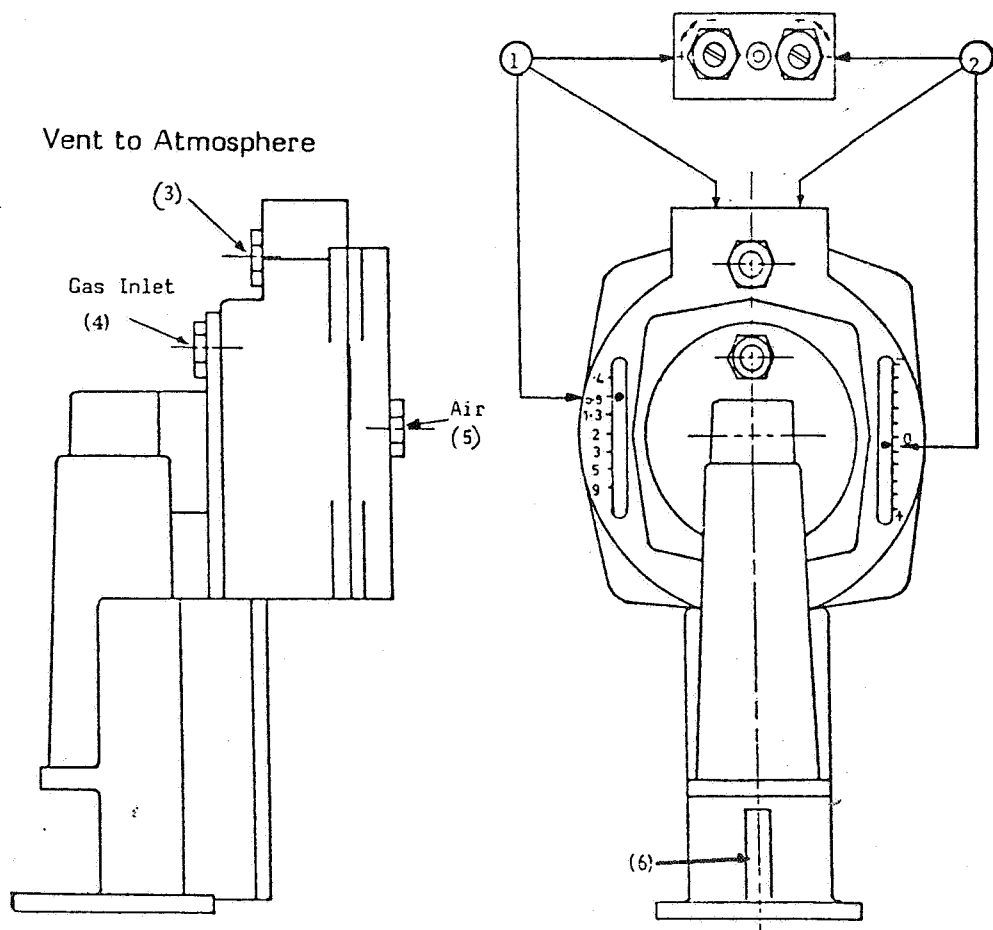
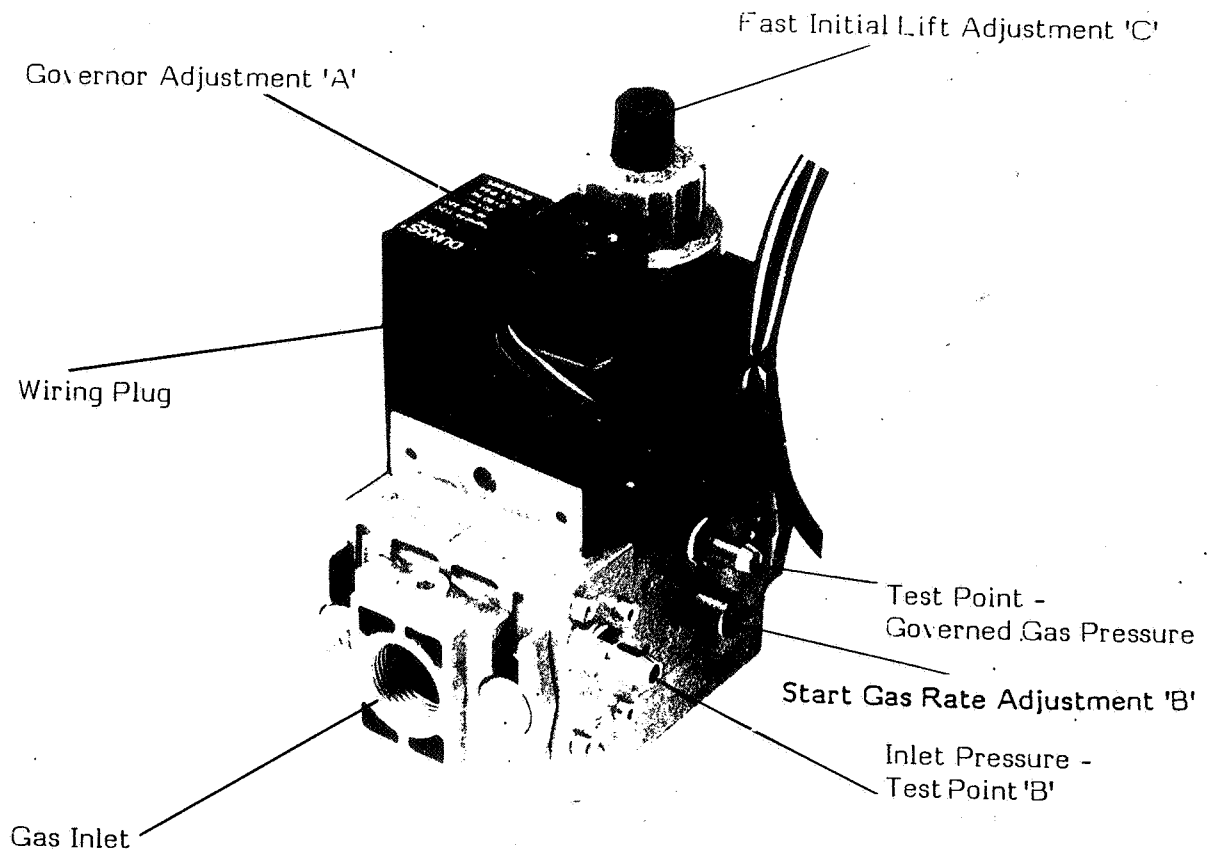

Fig. 10. Air/Gas Ratio Controller.
Fig. 11. Gas Valve with Integral Governor.
9.3.1 AIR/GAS RATIO CONTROLLER (FIG. 10).
Firstly the valve is fitted with Pressure Test Points to check (1) supply pressure to valve, (2) governed pressure and (3) pressure after all valves (as shown in Fig. 11).
- (b) Remove manometer from P.T.P.2 and fit at P.T.P.3. By introducing air via P.T.P.2 at low pressure max, 20 mbar - 8 Wg check for gas tightness of V2 and V3, if pressure is recorded at P.T.P.3 then to identify which valve is leaking manually close main gas valve via adjustment 'D' Fig. 11. Reintroduce air pressure as before, if no pressure recorded then V3 gas tight, and V2 suspect valve, if pressure still recorded then V3 leaking.
Finally once pressure test complete ensure that V2 is fully adjusted open via Point 'D' Fig. 11.
With a screwdriver, turn the adjusting screw fully anti-clockwise to give maximum gas flow rate. Refer to Fig. 11. Note B.
Check the gas rate with suitable and approved instruments. Should adjustments to the gas rate be necessary refer to paragraphs 9.3.1, 13.3.1 and Fig.10 for Two Stage High/Low, and paragraphs 9.5, 13.3.2 and Fig. 11 for Single Stage On/Off burners.